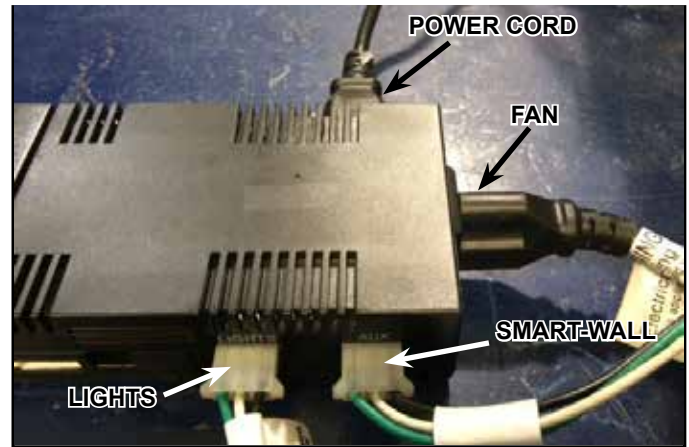

Figure 9. Fan, Lights and Smart-Wall Connection
- To connect a fan kit to the IFT-ACM, insert the three prong male plug from the fan into the receptacle located on the right side of the IFT-ACM. See Figure 9.
- To connect a light kit to the IFT-ACM, remove protective rubber cap labeled 'LIGHTS' and connect the female cord that was supplied in your lights kit into the three male pins on the IFT-ACM. See Figure 9.
- To connect a Smart-Wall kit to the IFT-ACM, remove protective rubber cap labeled 'AUX' and connect the female end connector of the Smart-Wall control module leads to the three male pins on the IFT-ACM. See Figure 9.